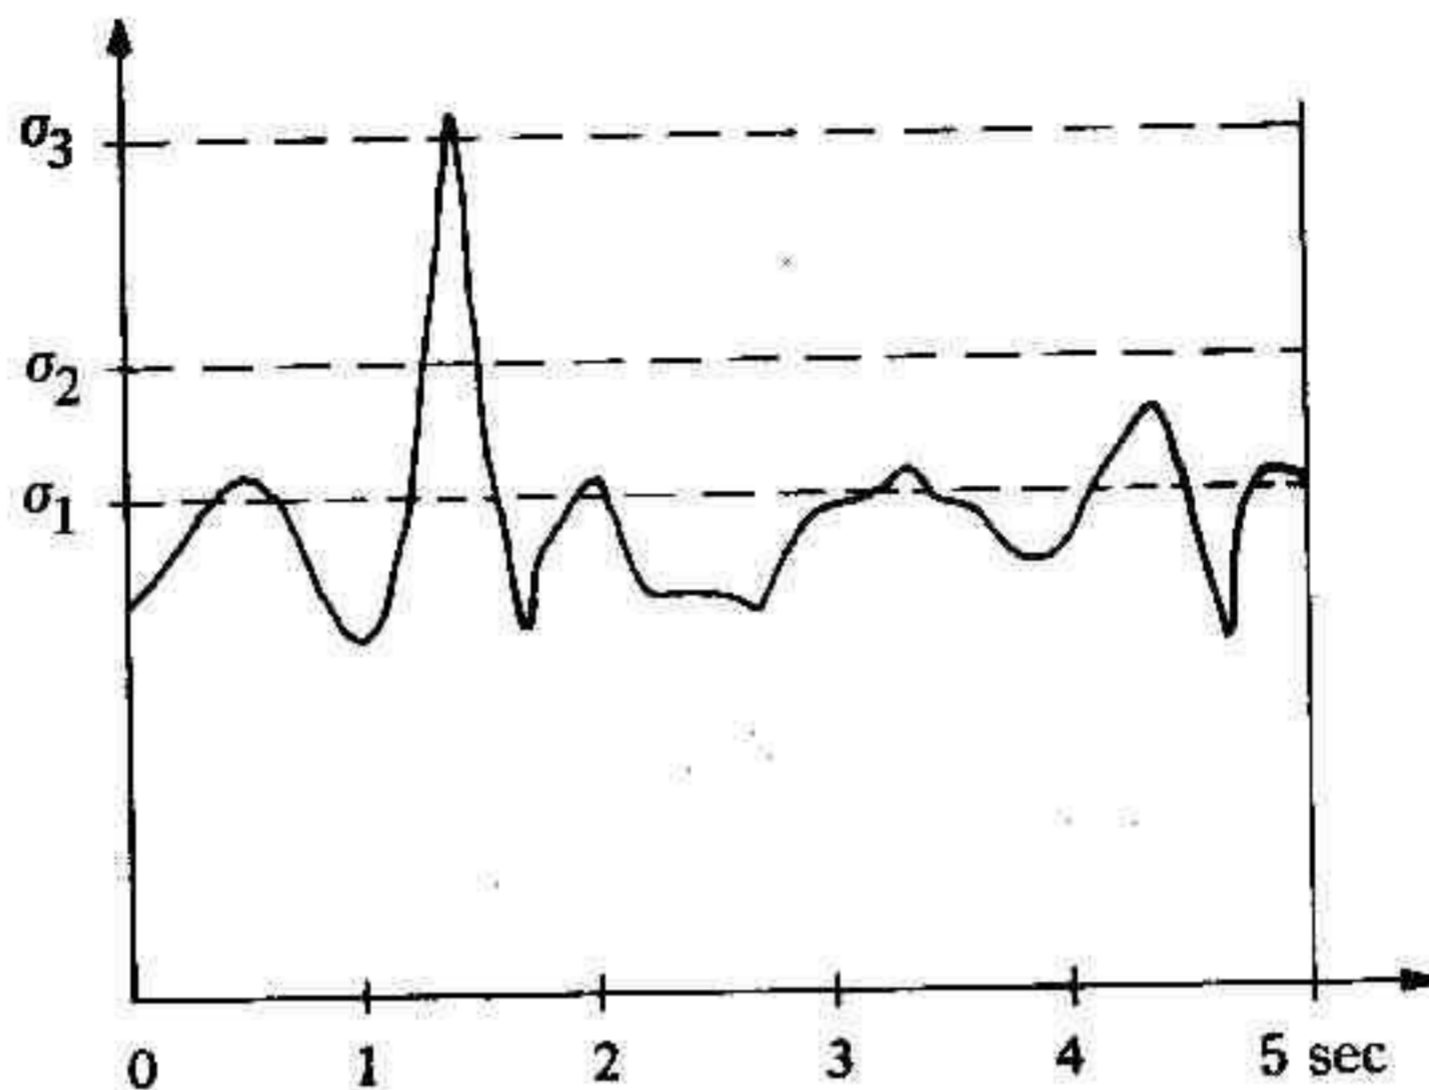

Fig. 5. Sigma meter circuit ( $\sigma$ )
The meter circuit selector (7) provides a choice of  $\sigma_1$  (32%),  $\sigma_2$  (4.5%) and  $\sigma_3$  (0.26%). To measure according to say  $\sigma_2$  (see Fig. 5), the following procedure is employed: